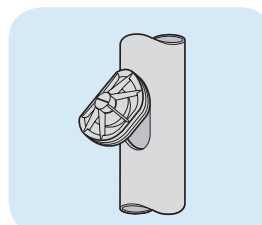

Fig. 19
- Slacken door to its fullest extent. Push the inner part of the door into the hole at a slight angle turning at the same time. When it is fully entered, turn it parallel to the axis of the pipe ensuring that the inner part locates into the hole. (Fig. 19).